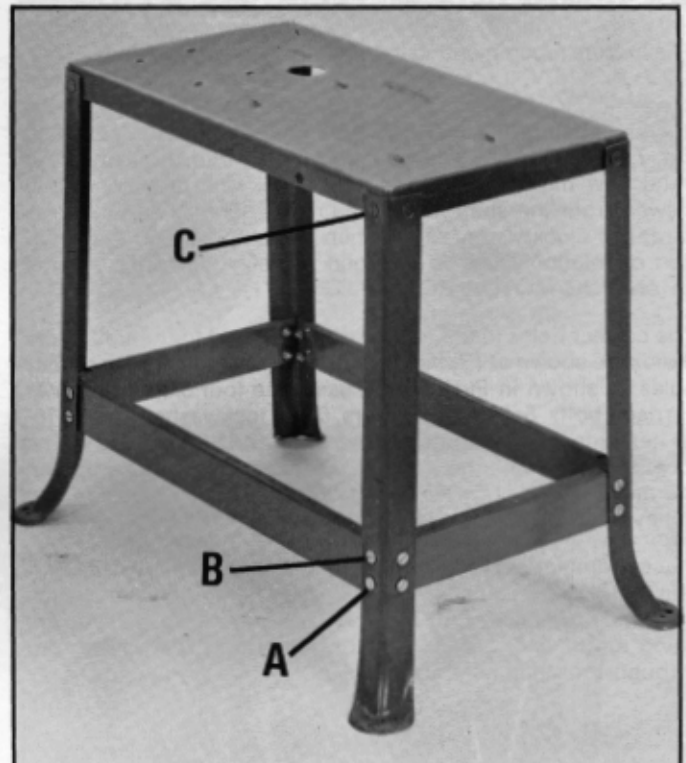
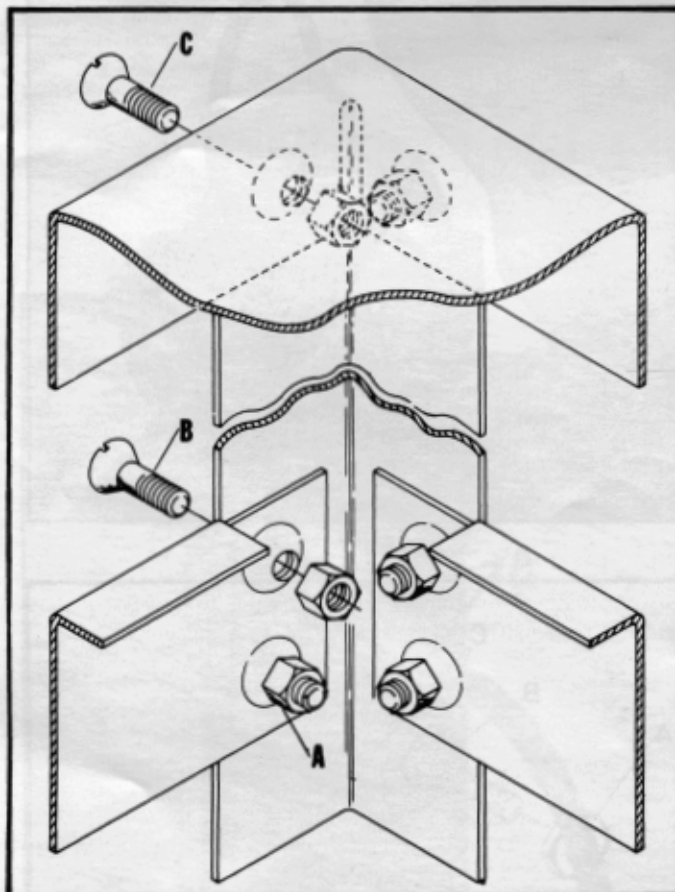

Fig. 2
Fig. 3
Assemble the stand as shown in Fig. 2, using the 24 screws and nuts supplied. Only tighten the screws and nuts finger tight at this time. NOTE: Fig. 3 illustrates the proper relationship of the screws and nuts to the stand. Place the stand on a level surface and tighten the screws and nuts in the following order. First the eight lower tie bar screws and nuts (A) Fig. 2, second the eight upper tie bar screws and nuts (B), and third the eight top shelf screws and nuts (C).